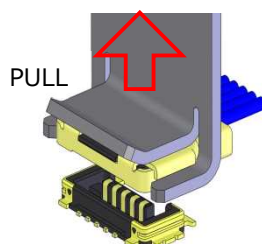

Fig.15
- ② Raise the jig vertically from the PCB surface. (Fig.15)